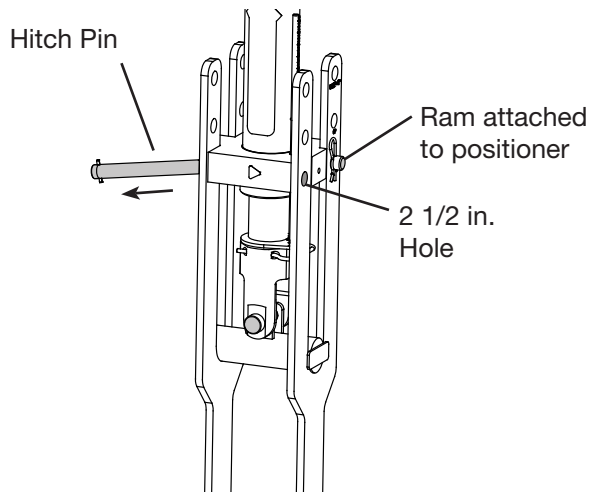

Figure 10
6. Remove the two hitch pins from the ram and connecting forks; (Fig. 10) the piston may need to be advanced or retracted slightly to loosen the pins.